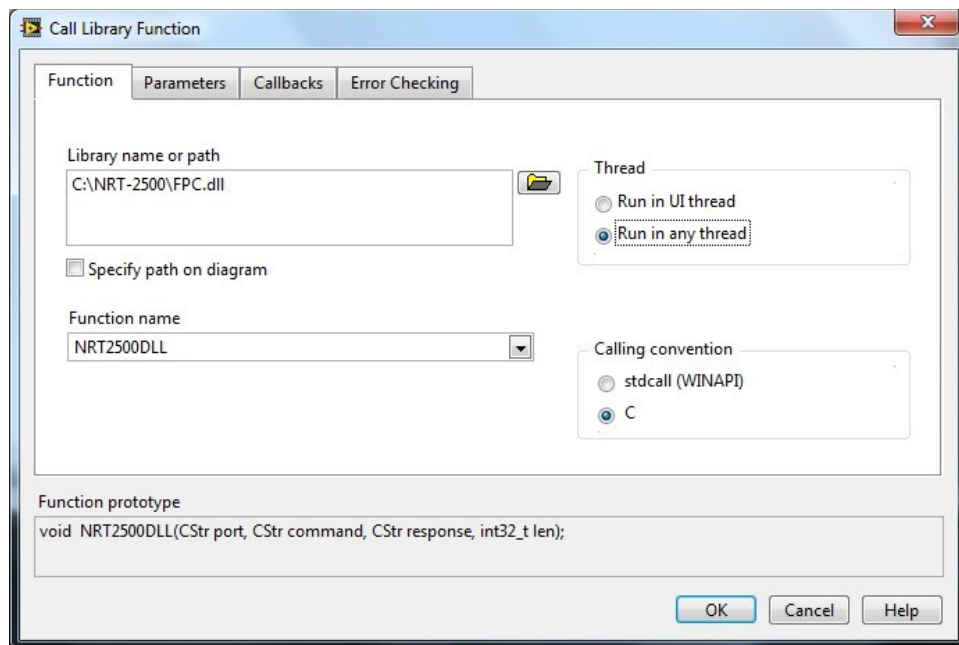

Figure 46: Setting up the parameters for calling the Library Function.
2. Point your cursor on the library node, click on the Right mouse button and select **Configure** (see Figure 46). Enter the Library name or path by browsing to the library folder, and select the Function name from the scroll-down list. Select the thread option; Select **Run in UI** if you call only a single instance of the DLL. If you want to call the DLL more than once simultaneously, select **Run in Any Thread**. Press the **OK** button to continue.